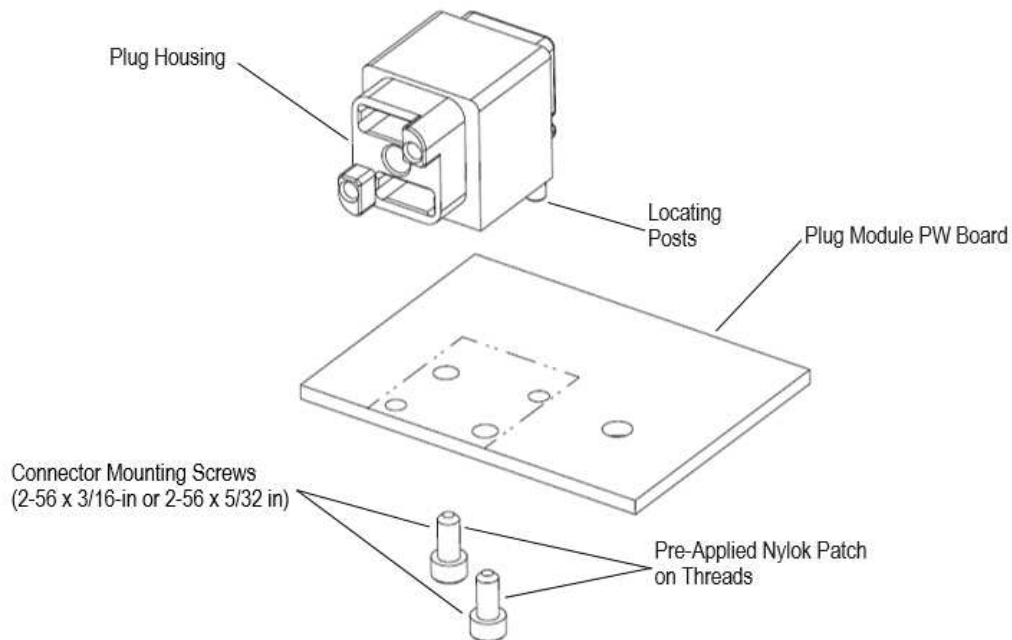

Figure 10
G. Plug (Module) Connector (Figure 10)